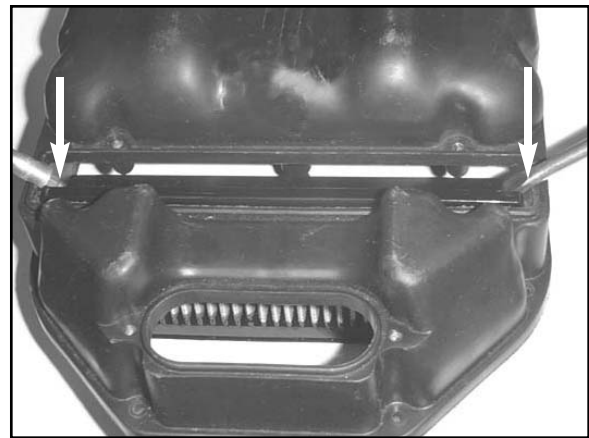

Fig. 2
5. Carefully pry the K&N Filtercharger® with two large screwdrivers until you can grab the K&N Filtercharger® with the fingers. (Fig. 2)